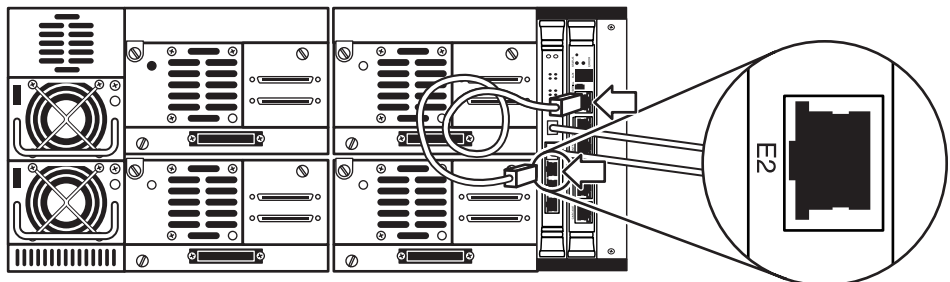

Figure 31: Connecting the Ethernet cable to the Interface Manager card
4. Connect a 1 ft (30.3 cm) white Ethernet cable from the Ethernet port “Network” on the Interface Manager card to Ethernet port “E2” on the cluster controller next to the Interface Manager card (see Figure 31).